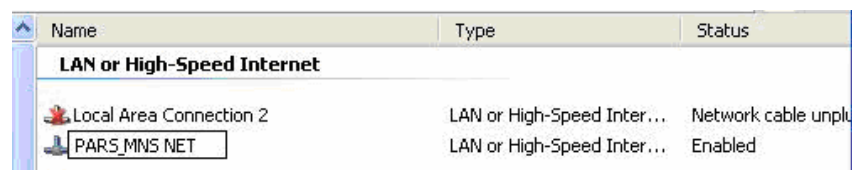

Figure 1-33. Rename Network Connection
5. Type in the new name **PARS_MNS_(space)NET** (Figure 1-33).